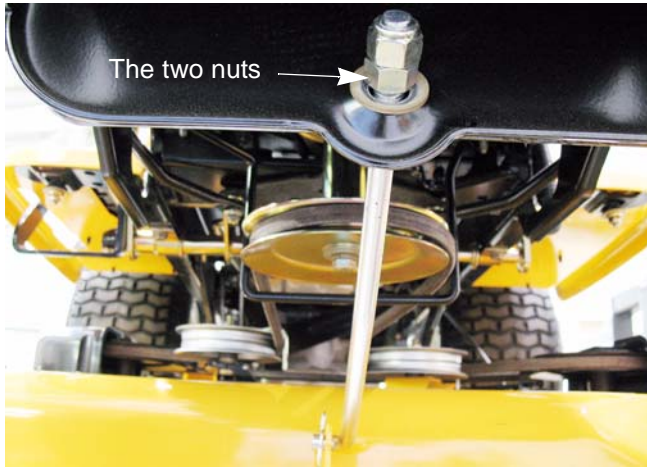

Figure 8.32
3. Working at the front of the tractor, loosen the hex lock nut at the front of the deck hanger rod. Thread the lock nut away from the hex nut behind it to allow room to adjust the rear nut. See Figure 8.32.